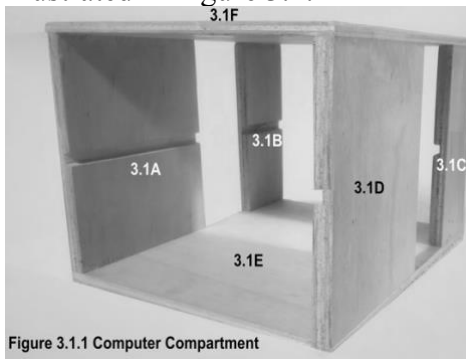

Figure 3.1.1 Computer Compartment
2. Apply a bead of wood glue along the lower edge of all 4 pieces (#3.1A-D) and use the brad nailer to attach them along both 12" edges of piece #3.1E as illustrated in Figure 3.1.1